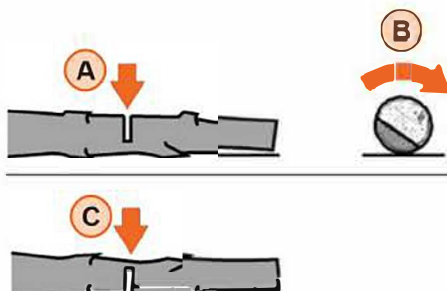

Figure 17
Cut halfway into the trunk (A), then turn around (B) and saw through from the opposite side (C) (see Figure 17). When sawing through the trunk, ensure that the saw rail does not touch the ground!